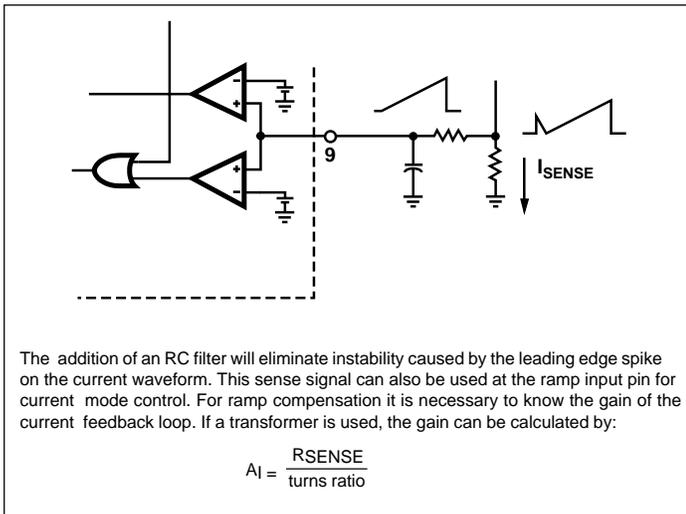

Figure 8. Resistive Current Sensing
- A_I = gain of the current sense network (see Figures 8, 9 and 10)